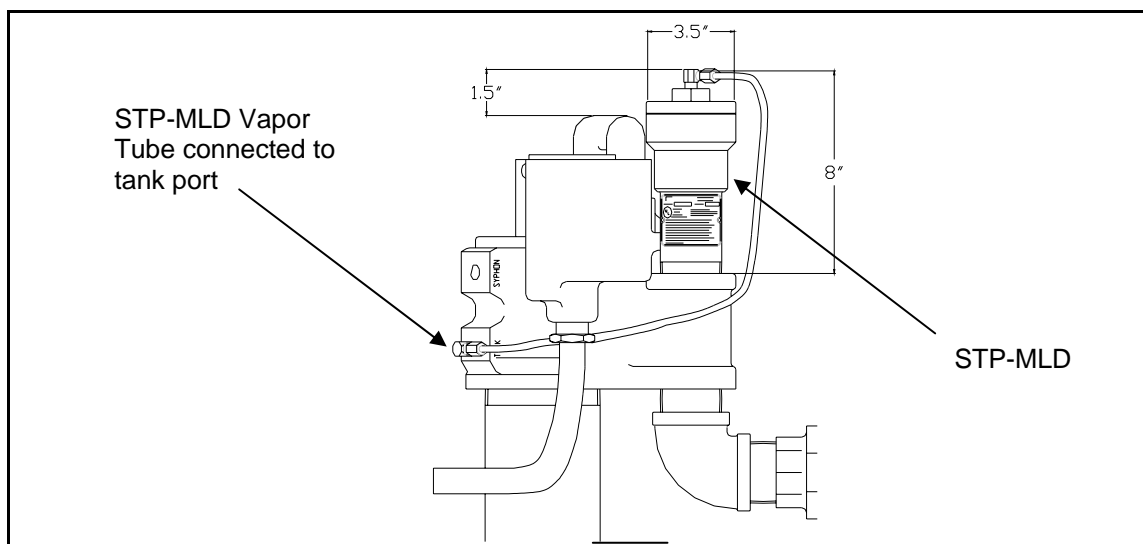

Figure 2
6. Screw the leak detector into the pump or adapter tee, and tighten with a 1-½" socket or pipe wrench on its hex top. The STP-MLD must be properly torqued into the manifold to provide a good seal (minimum of 138 foot-pounds) (see Figure 2).
Caution  **The FE Petro STP/IST's have two labeled ports: one for the syphon system and one for the tank. The leak detector must be vented to the tank port only. This is the port closest to the tank. Do not connect a leak detector to the syphon port, as this will make the leak detector inoperative, causing it to be incapable of detecting a leak, with resulting risk of contamination of the environment (see Figure 2).**